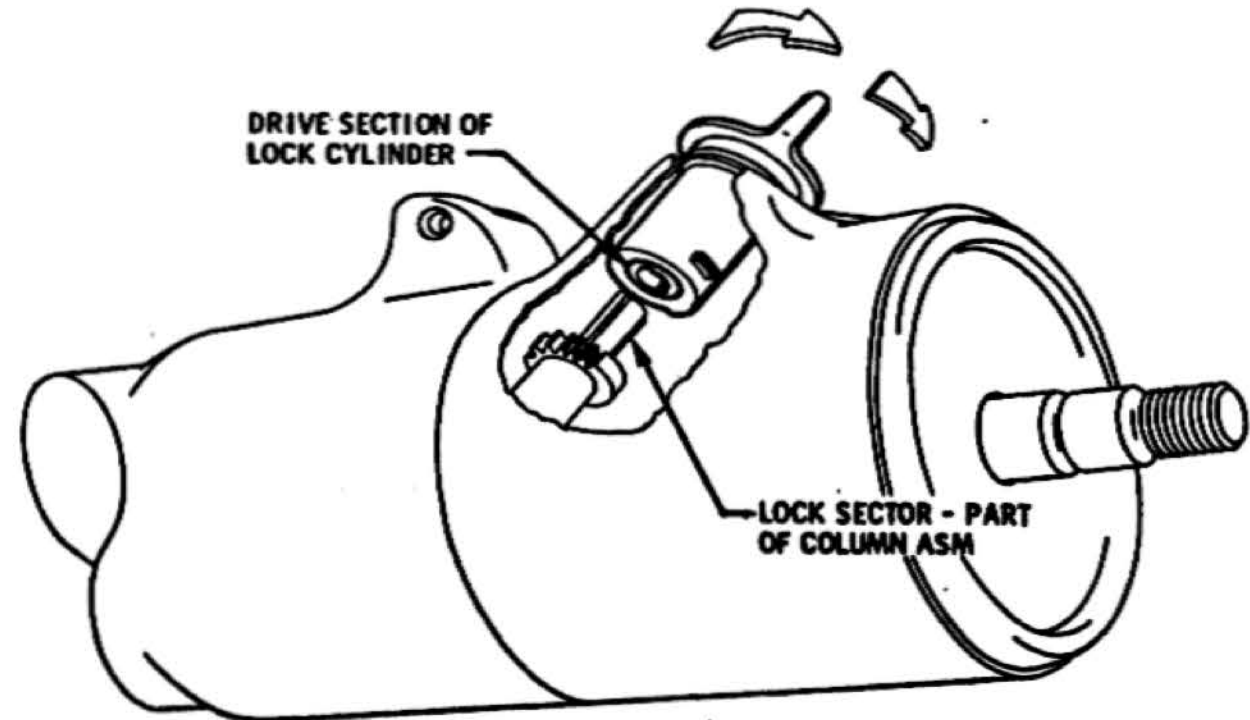

FIGURE 2
- 3 INSERT CYLINDER INTO HOUSING BORE WITH KEY ON LOCK CYLINDER SLEEVE ALIGNED TO KEYWAY IN HOUSING. (FIG. 1) PUSH CYLINDER INWARD UNTIL END OF LOCK CYLINDER TOUCHES END OF LOCK SECTOR. (FIG. 2)
- 4 SLOWLY ROTATE LOCK KNOB COUNTERCLOCKWISE, MAINTAINING A LIGHT PUSH INWARD ON LOCK CYLINDER UNTIL DRIVE SECTION OF LOCK CYLINDER MATES WITH SECTOR. (FIG. 2)